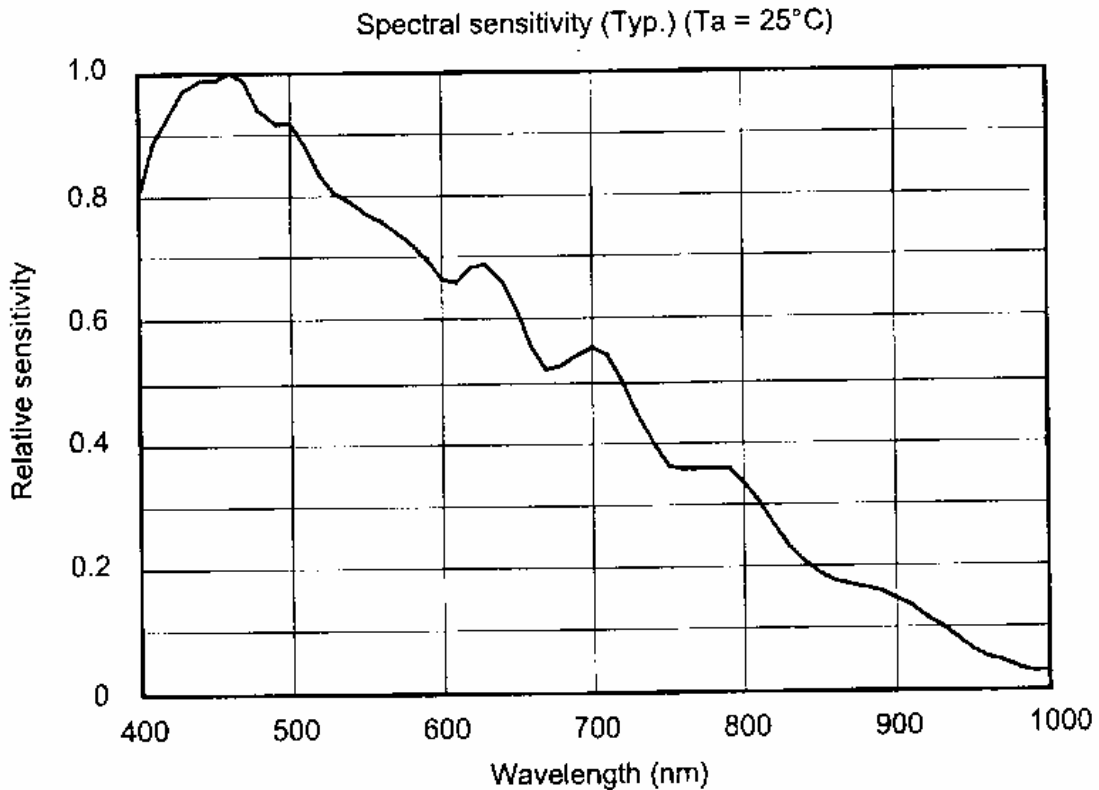

Figure 1. *CCD array detector response as a function of wavelength for the Ocean Optics array spectrometer.*
1. Plot the Spec-20 phototube response with relative response on the y-axis and wavelength on the x-axis from Table 1 data. On the same plot do the same for the CCD detector response by estimating from data provided in Figure 1.